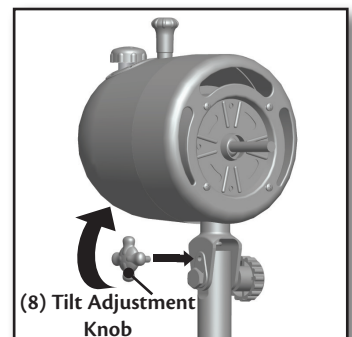

Figure 10.
After securing the motor(5), Screw in the Tilt Adjustment Knob(8) securely. Figure 10. This Knob allows you to adjust the fans angle.